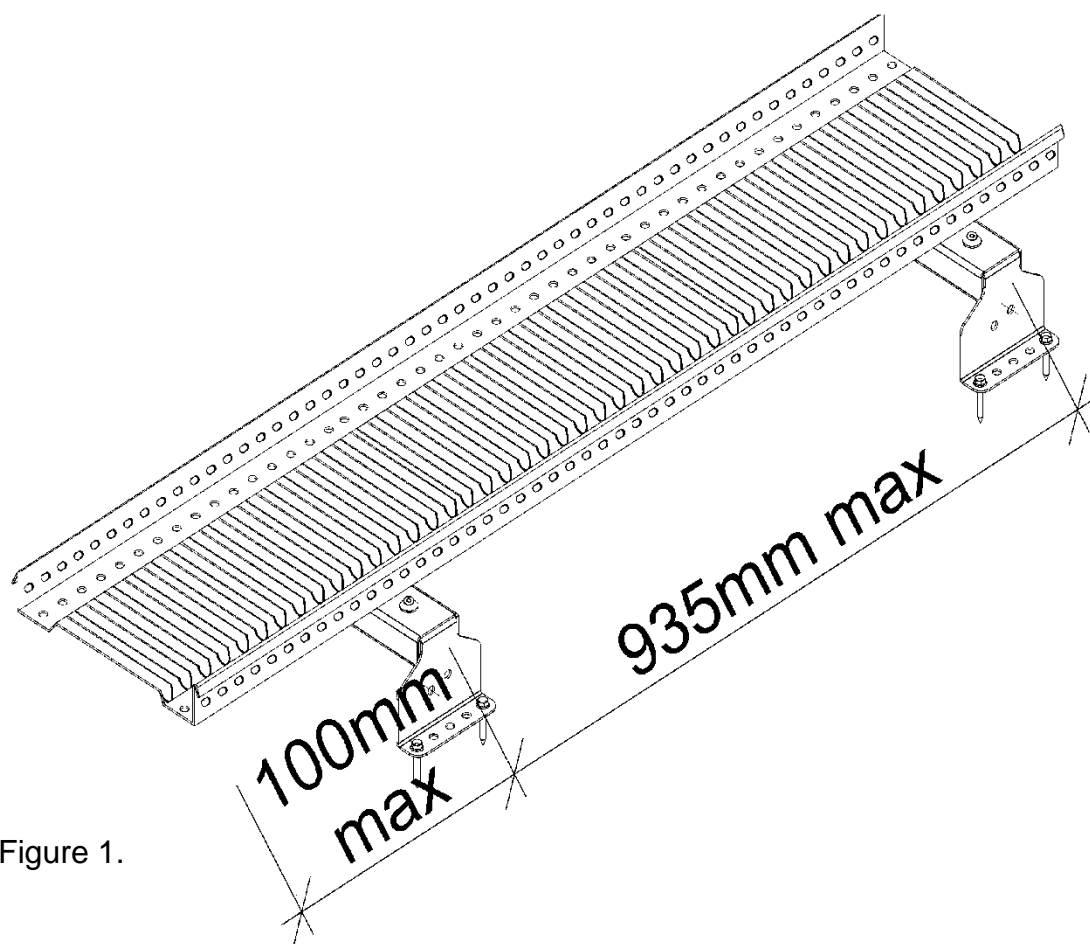

Figure 1.
- The maximum distance between the ZK- and ZL-bracket plates and platform ends is 935 mm, and 100 mm from the platform ends (Figure 1).